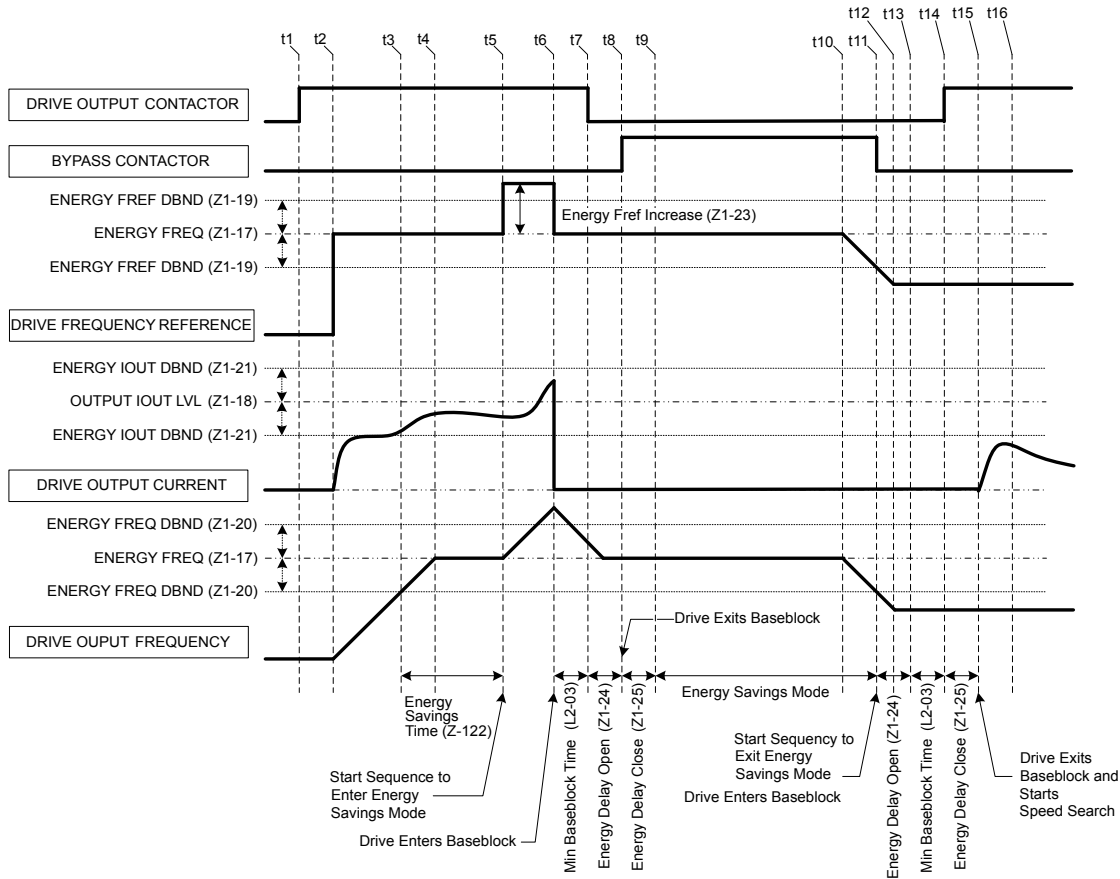

Figure 5.60 Drive Bypass Energy Savings Mode Sequence Example
7. Then the drive catches a spinning motor via Speed Search and follows frequency reference to take control. Refer to *Figure 5.60* for an example of the sequence that is followed when entering and exiting the Energy Savings Mode.